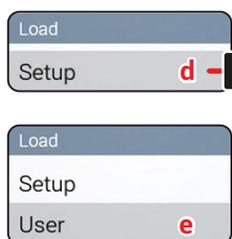

Fig. 34
- 1 Select **Load > Configuration** (d in Fig. 34) and press **OK**.